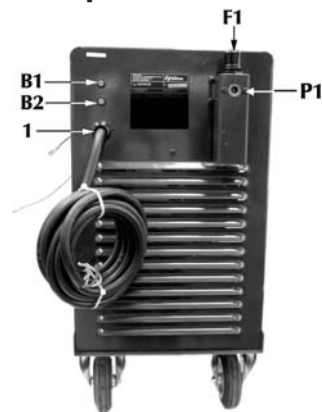
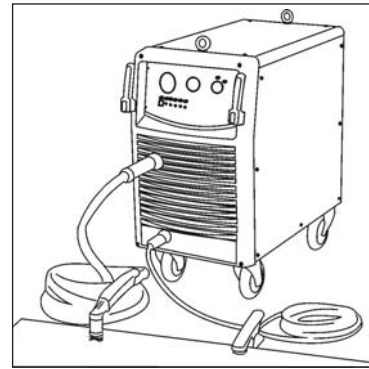

Fig. 3
Fig. 6
- Connect up the compressed air supply with a 1/4 inch to the air inlet P1 in the filter unit F1 (Fig.3). The pressure must ensure at least 5 bars with a flow rate of 165 litres a minute. Securely connect the earth cable connector to the generator as shown in figure 6.
- Position the earthing clamp onto the piece to be cut, ensuring that it makes a good electric connection (Fig. 6).
If there are operating faults with the power source, it will be inhibited until normal operating conditions have been restored; raise and turn the knob to adjust the pressure (F1 in Fig. 3) until you read a pressure of 5 bars on M1 (keep the torch button pressed during this operation so that the adjustment is performed with the air circuit open).